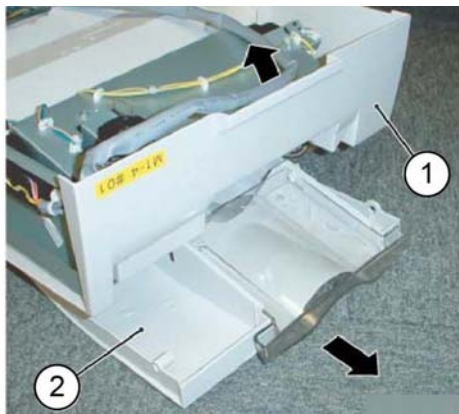

Figure 3 Top tray removal
7. Remove the top tray, Figure 3:
- a. Raise the integrated office finisher slightly in the direction of the arrow (1).
- b. Remove the top tray (2).